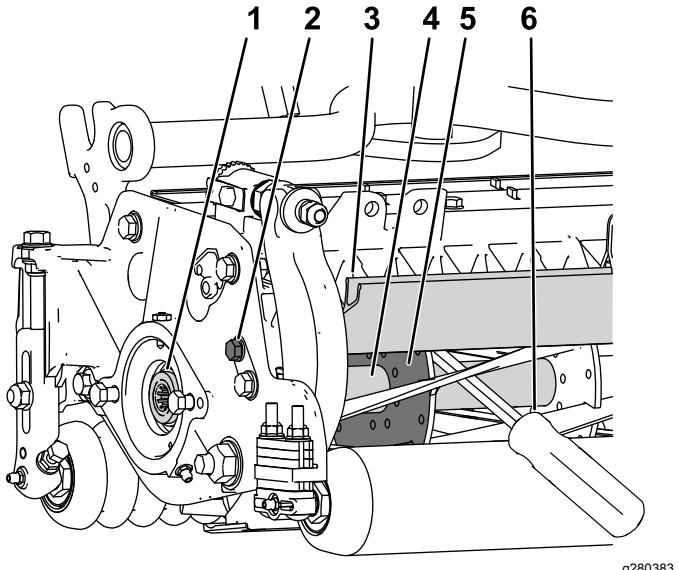

Figure 26
- Loosen the shield-bolt on the left side of the cutting unit and raise the rear shield (Figure 26).
back of the cutting reel, closest to the side of the cutting unit that you will be torquing (Figure 26).
3. Place the pry bar against the weld side of the reel support plate (Figure 26).